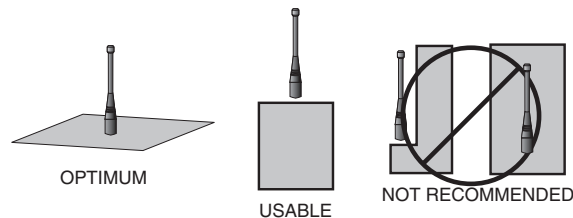

Figure 25: Ground Plane Orientation
2. Optimum performance is obtained from a  $\frac{1}{4}$ - or  $\frac{1}{2}$ -wave straight whip mounted at a right angle to the ground plane (Figure 25). In many cases, this isn't desirable for practical or ergonomic reasons, thus, an alternative antenna style such as a helical, loop or patch may be utilized and the corresponding sacrifice in performance accepted.